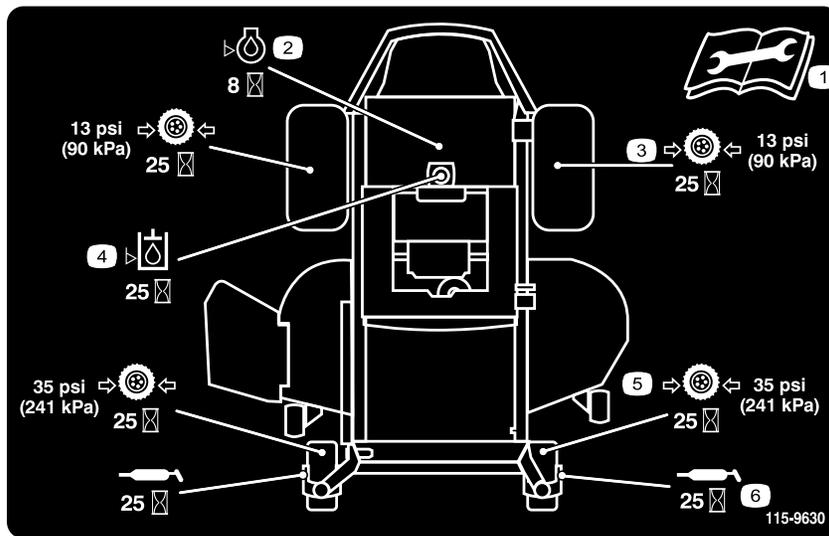

Figure 33
3. Clean the grease fittings with a rag (Figure 33 and Figure 34). Make sure to scrape any paint off of the front of the fitting(s).
4. Connect a grease gun to each fitting (Figure 34 and Figure 33). Pump grease into the fittings until grease begins to ooze out of the bearings.